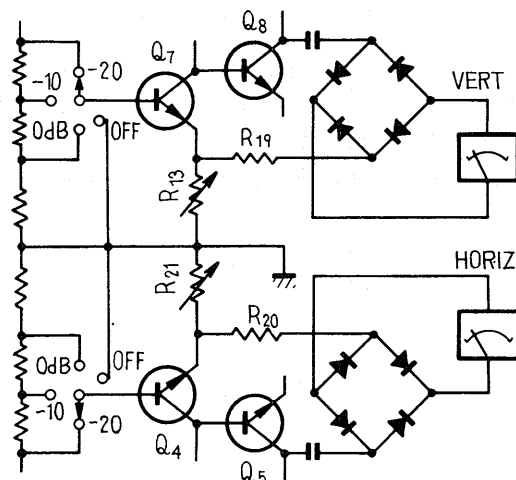

Fig. 5
6.3 METER AMPLIFIER (Fig. 5)
R13 controls the NFB factor which affects the amplifier's total gain. It is adjusted so that the meter reads 0dB when an input signal of 0.2V is present at the base of Q7 (or Q4) (fig. 5). Meter sensitivity is adjustable by means of the voltage divider circuit. -20dB position means direct signal input to the top transistor, i.e. maximum sensitivity.